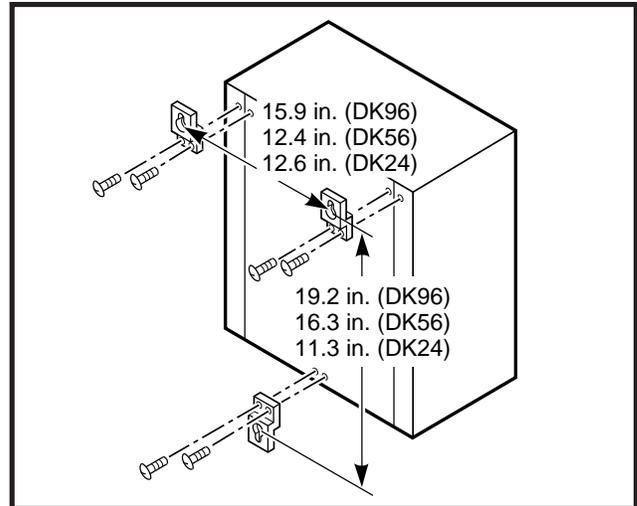

FIGURE 5-1
1) Install the three wall-mounting brackets (packed in the shipping carton with the KSU) on the rear of the KSU in both upper corners, and at the bottom center. Secure each bracket to the KSU with the back panel screws and the screws supplied with the brackets (Figure 5-1).
2) Mark the appropriate mounting screw locations on the wall by using Figure 5-1, or hold the KSU against the wall at the selected mounting location. Mark the positions of the holes in the flat part of each mounting bracket where they contact the wall. Mounting screws will be installed at these locations.